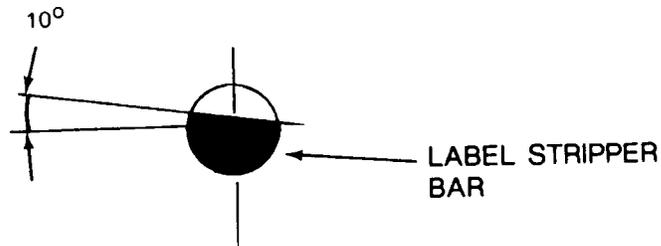

FIGURE 15
- b. Adjust the inclination of flat surface of the Stripper Bar to approximately 10 degrees. (figure 15)